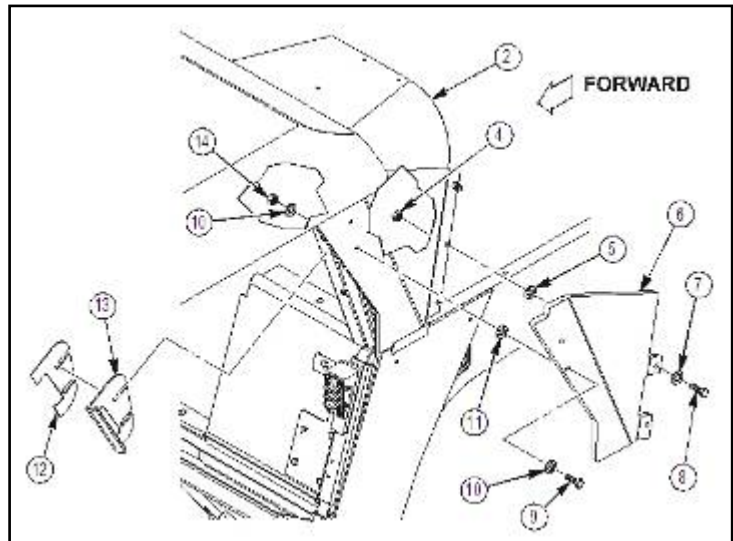

Figure 26b.
- 001 locknuts (4) as shown in figure 26b. Do not tighten capscrews (8) at this time.
3. Install two 4397000-014 capscrews (9), four 4397005-011 washers (10), 4397083-001 aluminum washers (11) (use as spacers, only as required), and two 4397064-001 locknuts (14) as shown in figure 26b. Do not tighten capscrews (9) at this time.
4. Slide 6435623-01M1 upper left rear door latch ramp (13) in place as shown in figure 26b. Install 6435395-01M1, 6435395-02M1, or 6435395-03M1 shims (12) as required. Tighten capscrews (8 and 9) to 10 lb-ft (13.6 N·m).